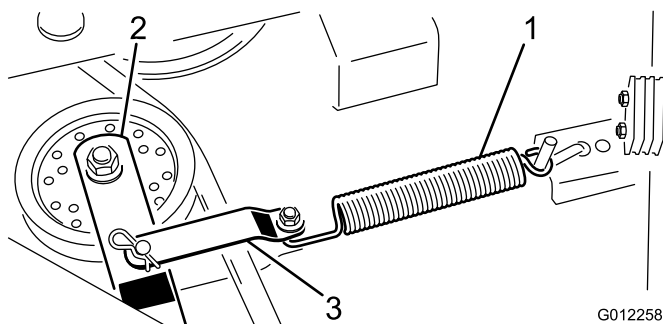

Figure 22
2. Unhook the spring from the idler arm bracket to release the belt tension (Figure 22). Remove the cotter pin and clevis pin securing the idler arm bracket to the idler arm.
7. Install the idler arm bracket to the idler arm with the cotter pin and clevis pin (Figure 22). Hook the spring onto the idler arm bracket. To ensure that there is proper tension on the drive belt, the spring should be extended to a length of approximately 7 inches (18 cm). If the spring is not extended to this length, relocate the spring rod to a new mounting hole further away from the belt.